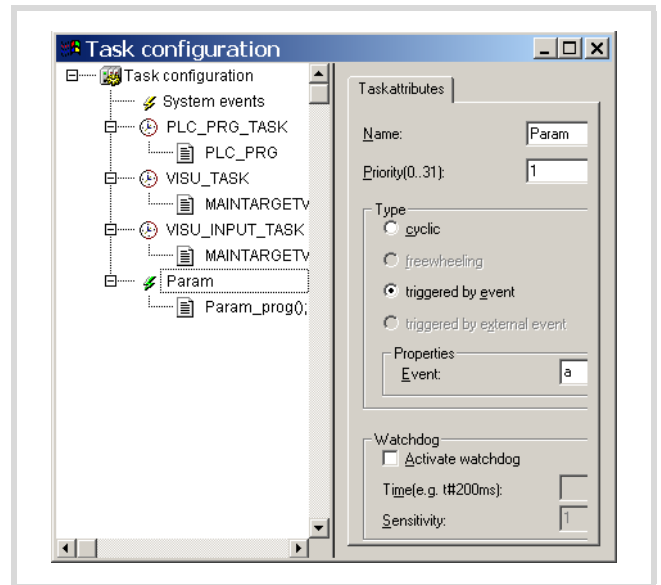

Figure 40: Parameterisation of the event-triggered task
- ▶ Define the Boolean variable "a" as the result of the event, → figure 40.